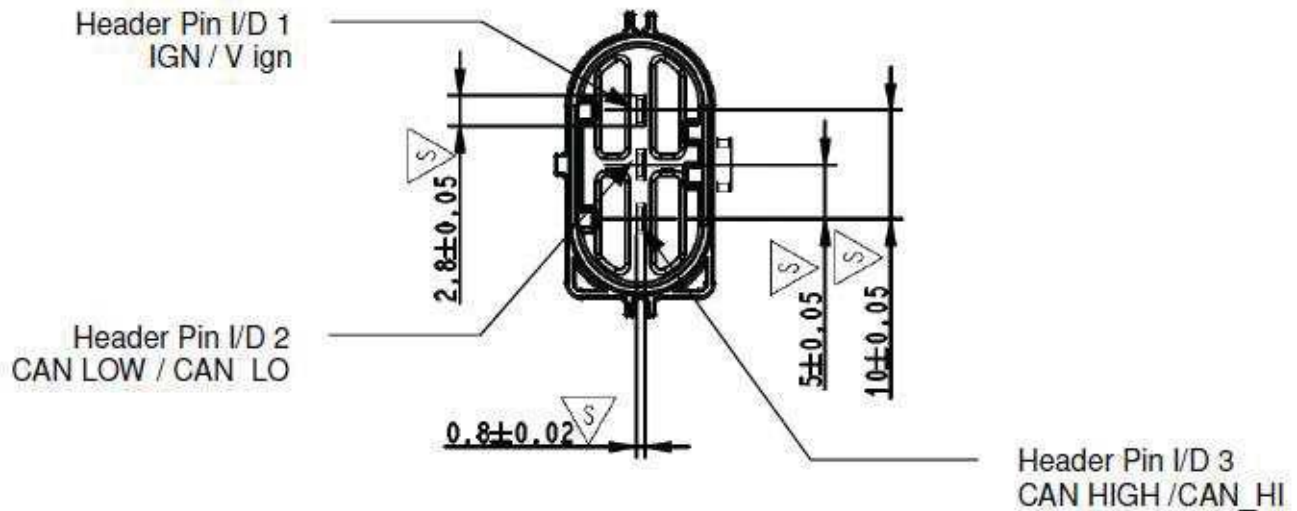

Figure 6: Signal Connector
- Connector Detail: Yazaki (Code A) shown in Figure 6.